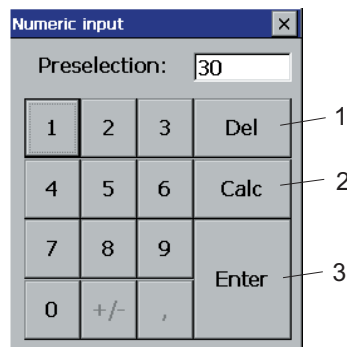

Fig. 53 Input keyboard
- You can correct an incorrect entry by touching the *Del* key (Fig. 53/1).
- Calculator functions can be activated by touching the *Calc* key (Fig. 53/2).
3. Touch the *Enter* key (Fig. 53/3) when the entry is completed.